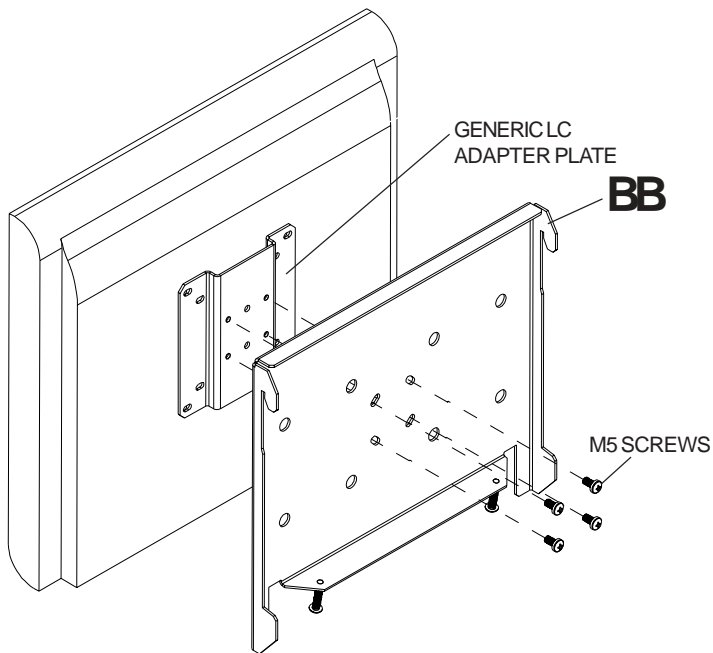

fig. 2.3
- 2 To prevent scratching the screen, set a cloth on a flat, level surface that will support the weight of the screen. Place screen face side down. Attach the interface bracket (BB) to the LC adapter plate (sold separately) using four M5 screws provided with plate as shown in figures 2.3 (portrait) or 2.4 (landscape).